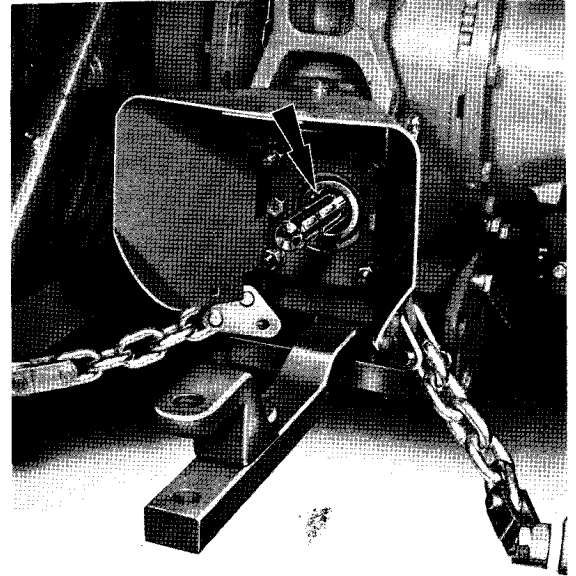

FIG. 3
2. Fig. 3. Remove the circlip securing the p.t.o. shaft.